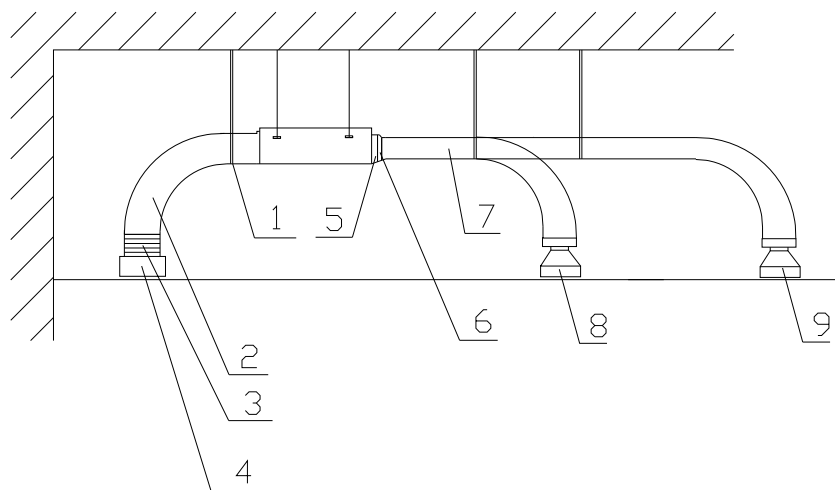

Figure 1-1-12
- ◆ Installation of circular duct, as shown in Figure 1-1-12